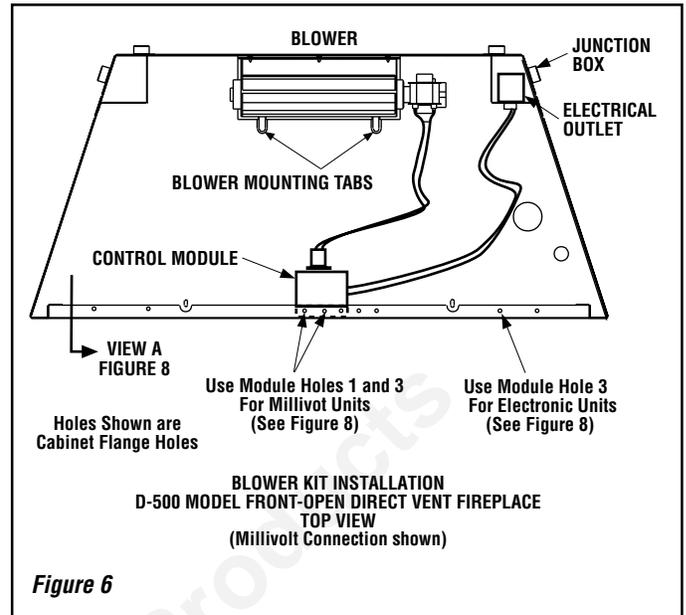

Figure 6
- e** - see **Figure 6** for *D-500 series units*;